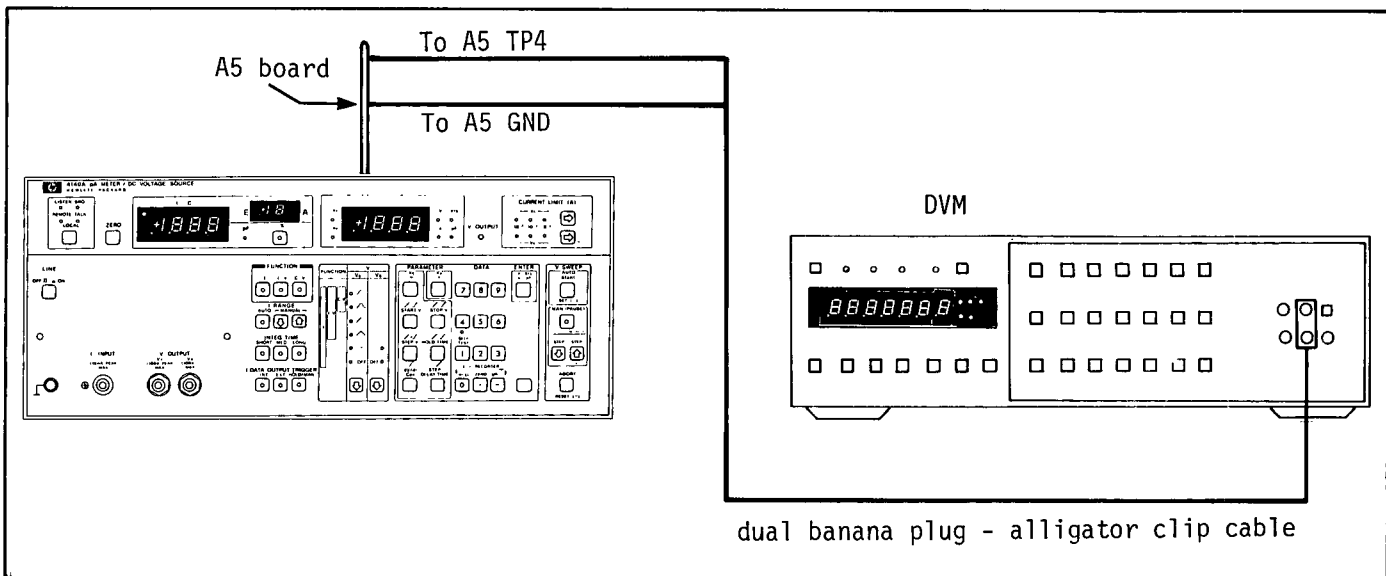

Figure 5-4. VS (Voltage Source) DC Adjustment Setup.
3. Connect DVM plus input to A5TP4 (see Figure 8-42 for location) and minus input to A5GND pin with dual banana plug - alligator clip cable. See Figure 5-4.